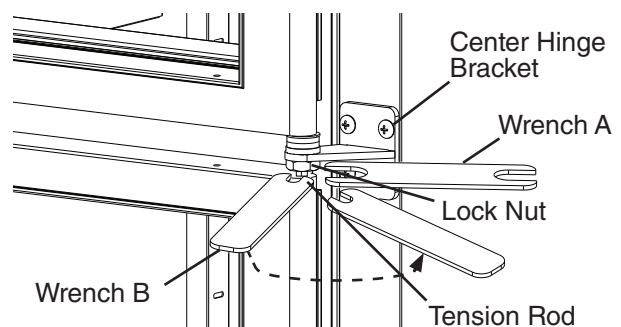

Fig. 43
- 4) Turn wrench B counter-clockwise to relieve tension on the tension rod. Without releasing the pressure on wrench B and the tension rod, use wrench A to tighten the lock nut. See Fig. 43.